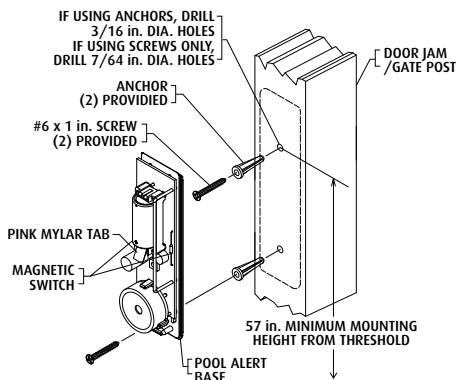

FIG. 4
2. Place magnet next to magnetic switch (location shown Fig. 4) then remove the Pink Mylar battery tab. Green LED flashes 1 time every 30 seconds (Normal State).
Screw Mounting (Fig. 4)